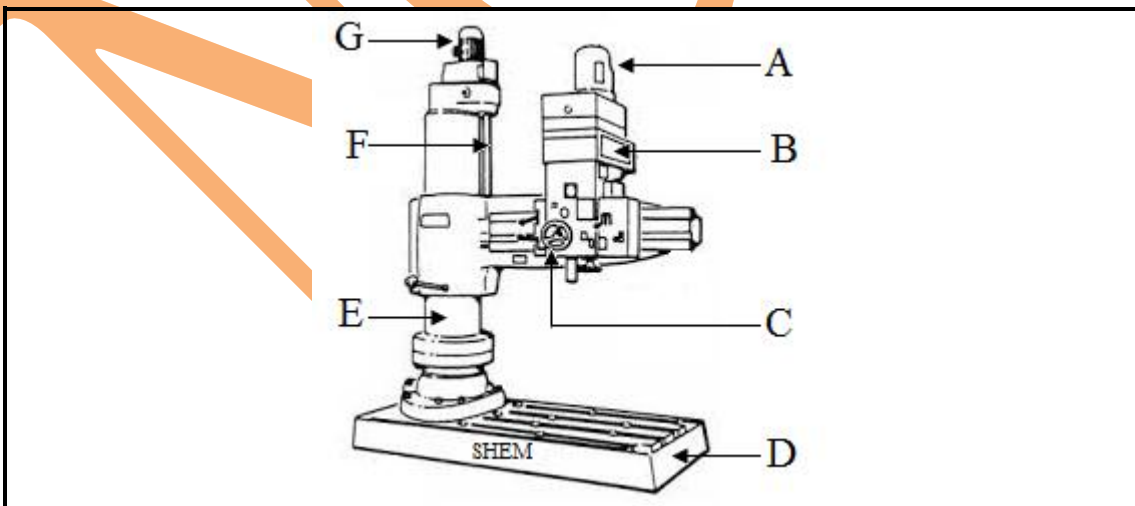

FIGURE 2
2.1 FIGURE 2 shows a radial-arm drilling machine.